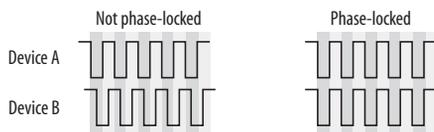

Figure 4-18: When transferring audio, two devices must have phase-locked audio clocks to prevent clicks, pops or other artifacts.
- Synchronizing with other digital audio devices so that their digital audio clocks are *phase-locked* (as shown in Figure 4-18)